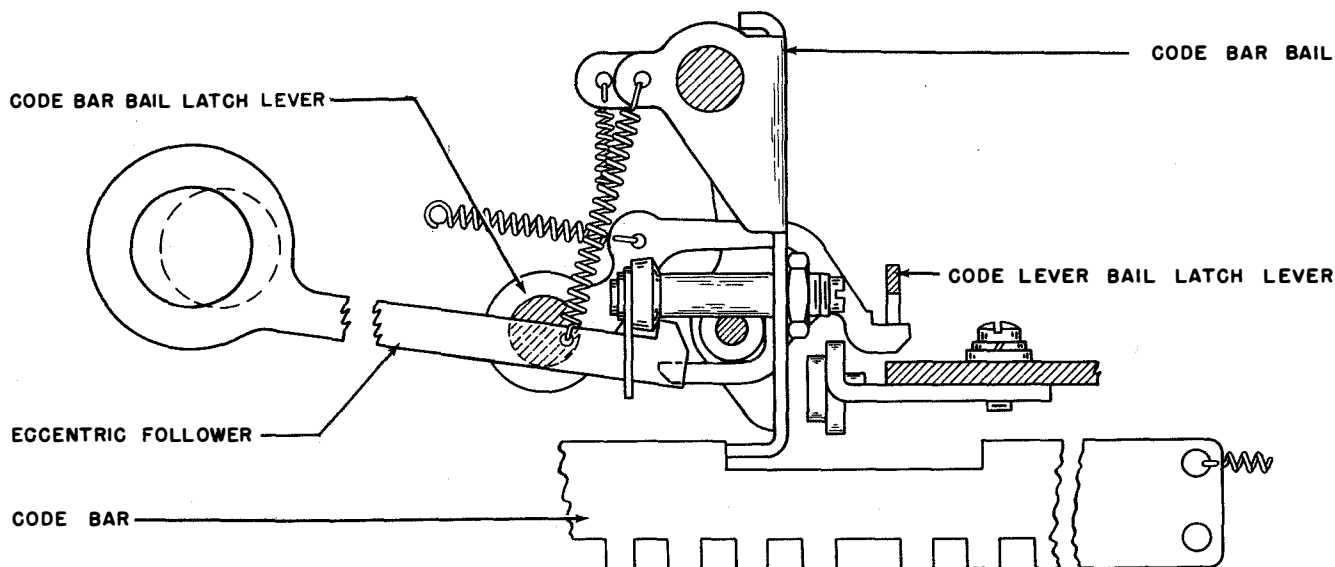
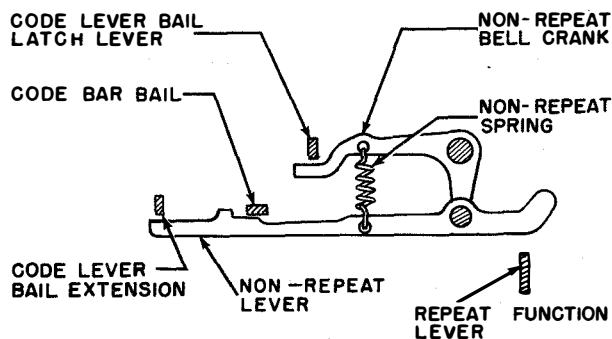

Figure 2-9. Code Bar Bail Mechanism, Reset Position
Figure 2-11. Non-Repeat Lever Mechanism
bars, and the clutch trip bar to be returned to their original positions (figures 2-9 and 2-10). As the code bar bail moves to the left, it carries with it the non-repeat lever (figure 2-11). This in turn rotates the non-repeat bell crank about its pivot point until it lifts the code lever bail latch lever out of engagement with the code lever bail extension. While a spring then returns
b. **REPEAT MECHANISM.**—Operation of the repeat keylever (red) simultaneously with one of the green keylevers or the space bar, disables the non-repeat mechanism and causes the character or function selected to be repeated as long as the repeat keylever is held operated. The operated repeat keylever causes its function lever to raise the right end of the non-repeat lever (figures 2-11 and 2-25), and rotate it about its pivot point. In this position, the non-repeat keylever cannot be engaged and operated by the code bar bail. There-